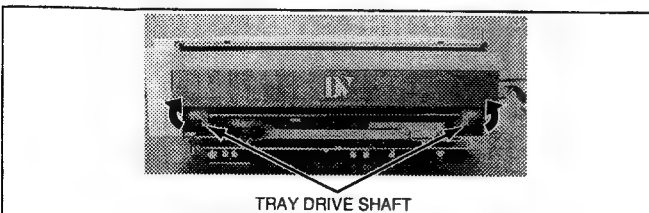

Fig. T-2
- Fig. T-2 When the Tray can not be opened normally, slowly turn the Tray Drive Shaft until the Tray is fully opened